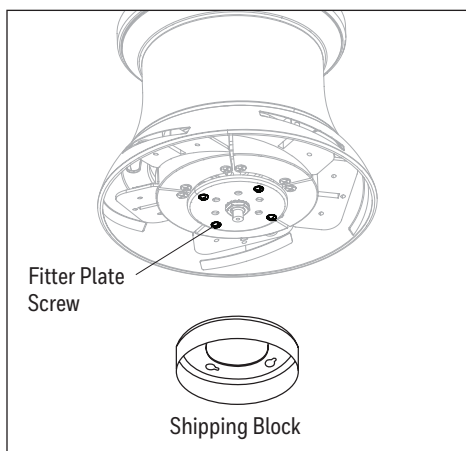

Figure 2.1
1. Loosen the four fitter plate screws preassembled to the fitter plate. Then, turn the orange shipping block counterclockwise and remove. Discard the shipping block (Figure 2.1).